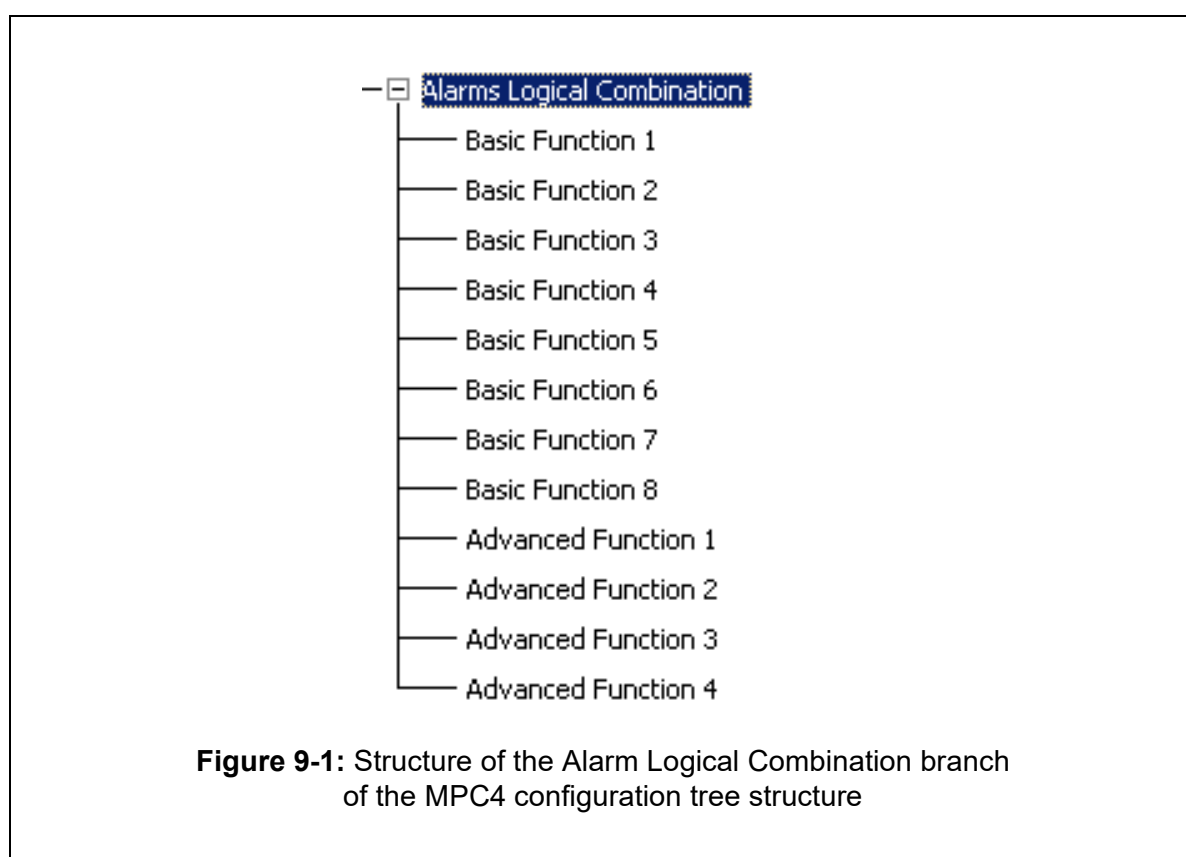

Figure 9-1: Structure of the Alarm Logical Combination branch of the MPC4 configuration tree structure
This section describes the Alarm Logical Combination branch of the configuration tree structure, visible when an MPC4 or MPC4 SIL card is selected (see Figure 9-1). This branch allows logical combinations of alarms to be defined. The VM600 MPS1 software allows eight basic functions and four advanced functions to be configured.
- 1- Select one of the eight Basic Functions (Basic Function 1 to Basic Function 8) from the Alarm Logical Combination branch of the tree structure (Figure 9-1). A window resembling that shown in Figure 9-2 appears.
- 1- Select one of the four Advanced Functions (Advanced Function 1 to Advanced Function 4) from the Alarm Logical Combination branch of the tree structure (Figure 9-1). A window resembling that shown in Figure 9-6 appears.